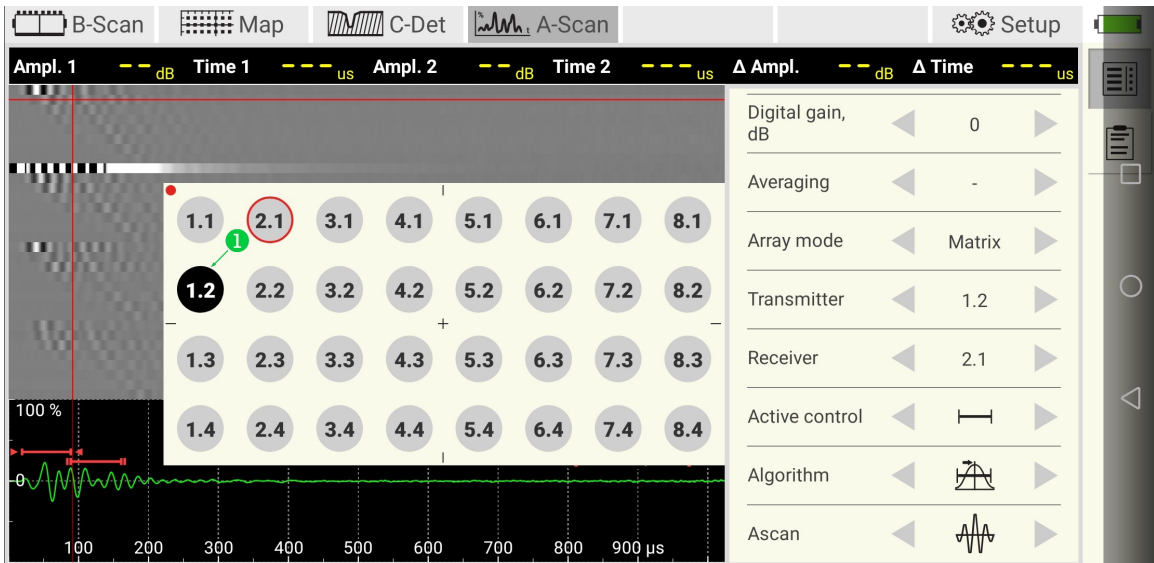

Figure 12: Selecting a transmitter in matrix mode
In the *matrix* mode, the operator can select rather a single transmitter then a group ① (Figure 12). Receiver selection flow does not change.